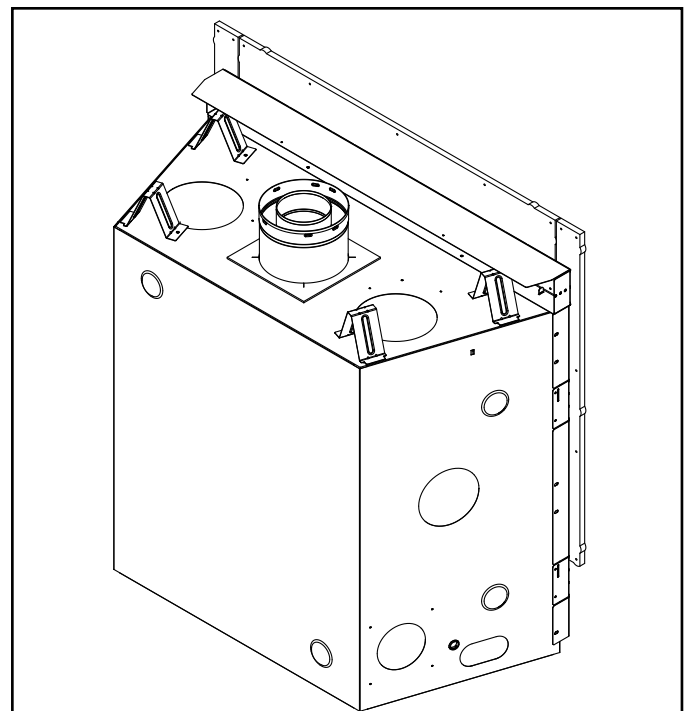

Figure 6.4 COSMO32-IFT-B - Shipping Support and Seal Cap
2. Remove and discard seal cap. See Figure 6.4.